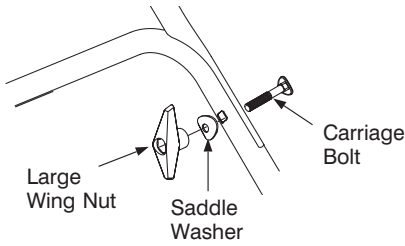

Figure 2
- Secure the upper handle to the lower handle using curved carriage bolts, saddle washers and large wing nuts, see figure 2.